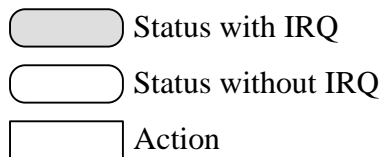

Fig 13-4 Flowchart Symbols
- The following flowchart takes Fig 13-4 indicated "Grey Bottom Round Block", "White Bottom Round Block" and "Square Block" to indicate I2C interface status respectively: